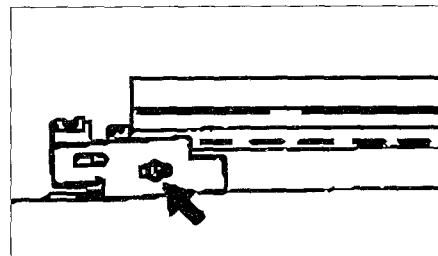

Figure 15
- Secure loose rivets (arrow in Figure 15) by using pliers to squeeze the rivet heads. Make certain not to damage the roof trim panel.